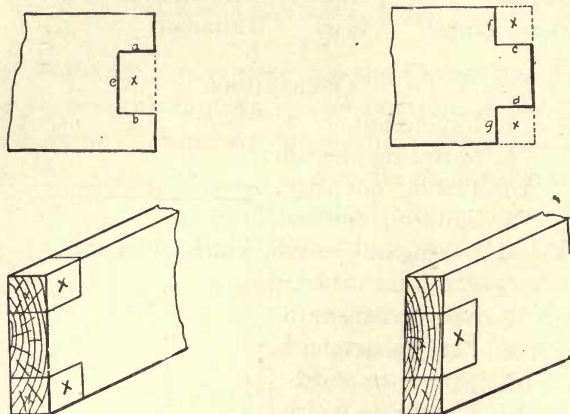

FIG. 44.—HALVED JOINTS OF SEED-TESTING BOX.
11. Laying out the halved joints. — In laying out the halved joints at the corners, set the marking gauge at  $\frac{7}{8}''$  and gauge both ends of the four pieces, gauging from the two edges as at *a, b, c, d* (Fig. 44), then gauge across the ends as at *e, f, g*, being careful that both ends of each